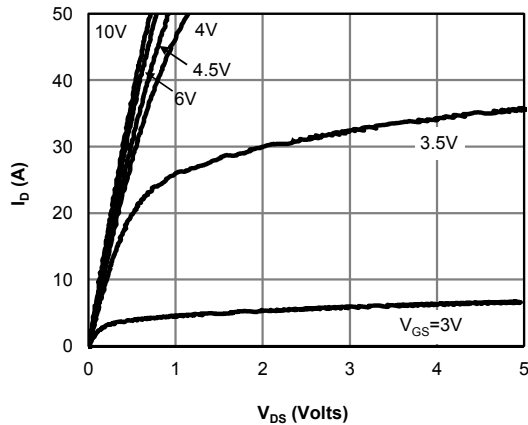

Figure 1: On-Region Characteristics (Note E)
- E. The static characteristics in Figures 1 to 6 are obtained using  $<300\mu\text{s}$  pulses, duty cycle 0.5% max.